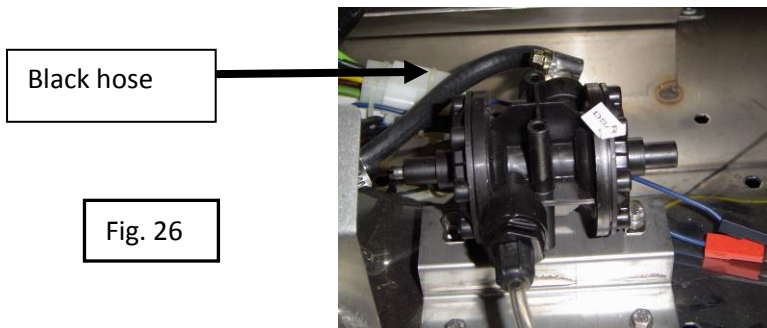

Fig. 26
- 2) Remove black hose connected to the current rinse dispenser. Connect External Rinse Injector into the black hose. (Fig. 26)